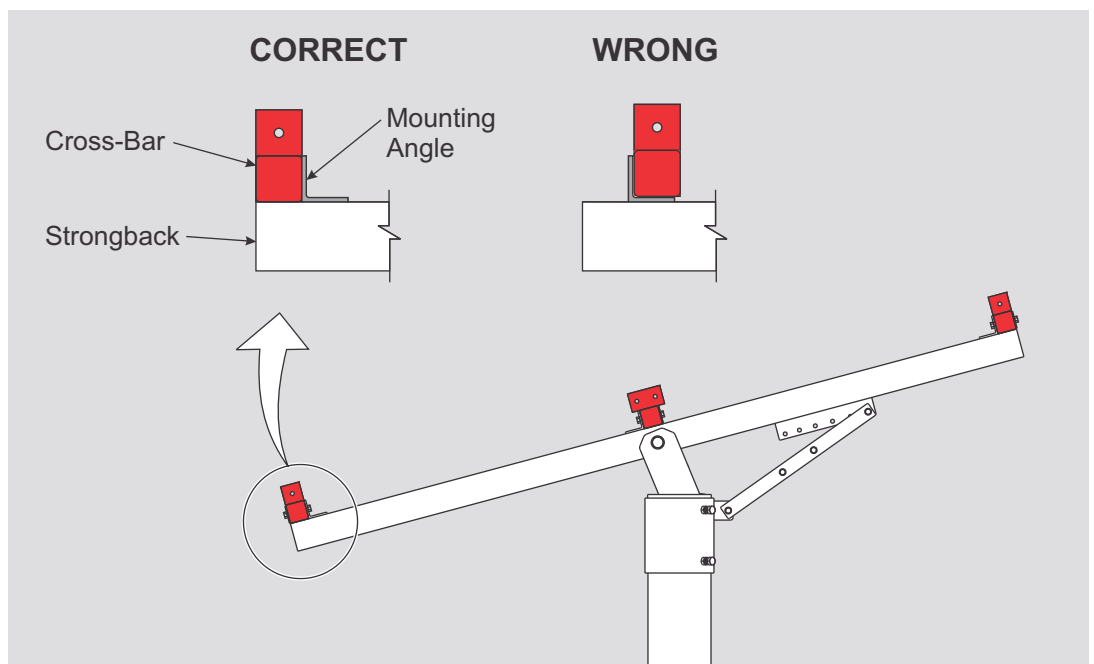

Figure 3-2: Cross-Bar Positioning relative to Mounting Angles
Cross-Bars are mounted to the outside of the Strongback mounting angles (these are welded to the Strongback); they are not nested into the Mounting Angles. (See Figure 3-2)
- C. Continue using these steps to install the north and south most Cross-Bars to the Strongback. Refer to Figure 3-2 as needed for proper positioning.